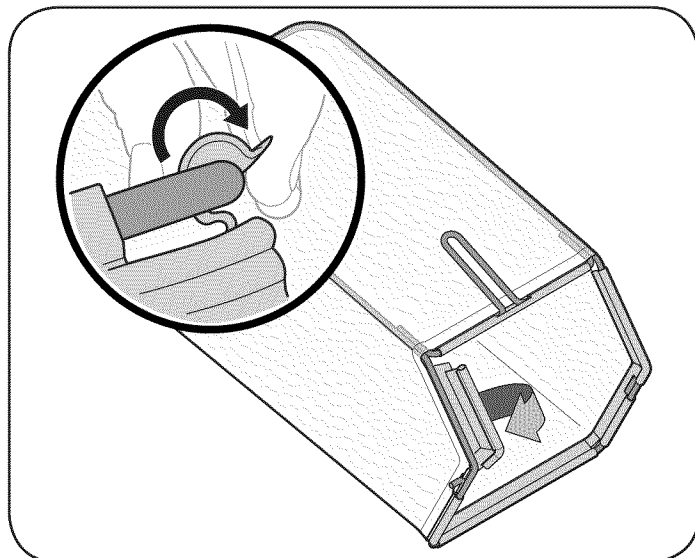

Figure 7
- B. Slip plastic channel of grass bag over hooks on the frame. See Figure 7.